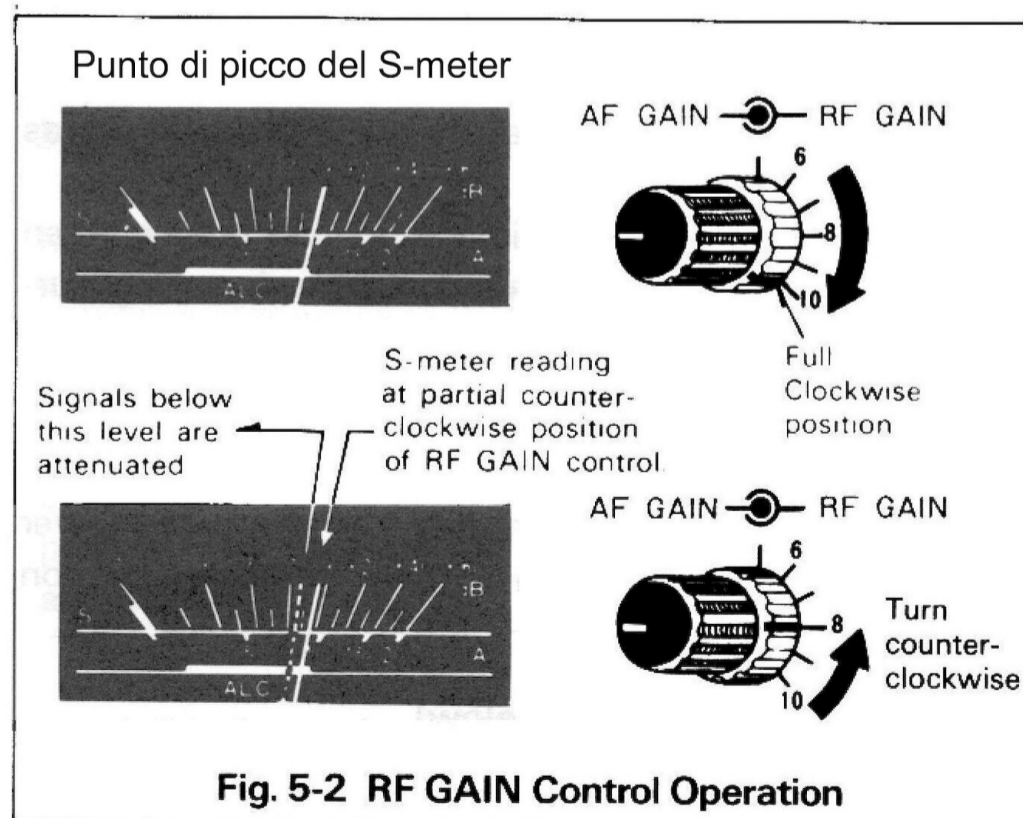

Fig. 5-2 RF GAIN Control Operation
5.1.4. CONTROLLO GUADAGNO RF (Fig. 5-2)